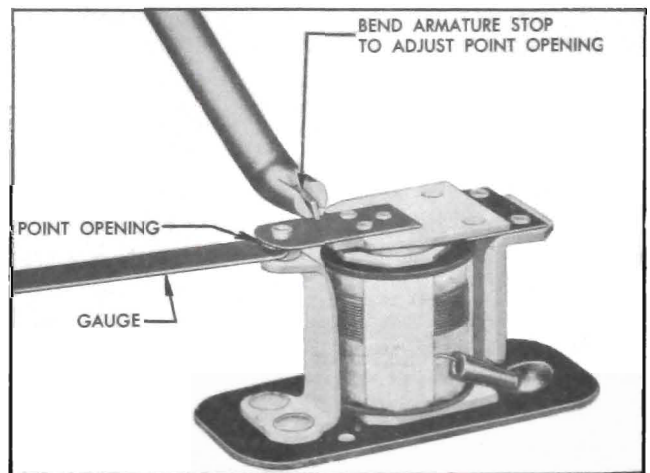

Figure 10-36—Relay Contact Point Adjustment
3. With armature free, check contact point opening with feeler gauges. Point opening should be between .020" and .030" and may be adjusted, if necessary, by bending the upper armature stop. See figure 10-36.